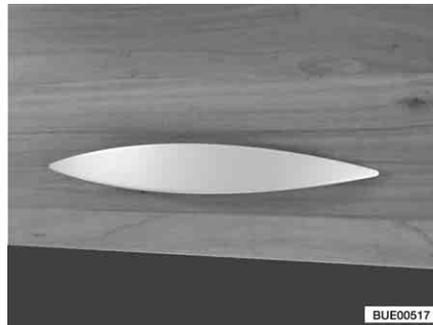

Fig. 36 Furniture flap with handle (example)
- Pull handle (Fig. 36) until furniture flap is open.